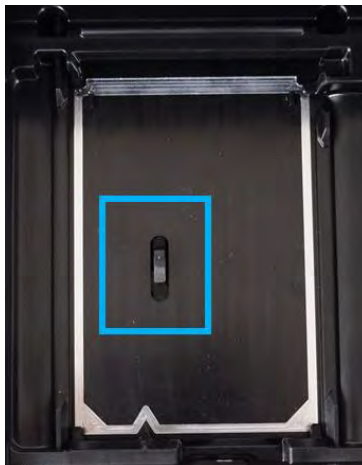

Figure 5.24: Location of the presence switch in the Alto instrument.
- The cartridge loading orientation is important to ensure that the cartridge is sitting properly inside the instrument. To ensure that this is done correctly, the cartridge must sit flat and should not be at an angle. The notch in the cartridge ensures that it is oriented correctly in the cartridge bay. The cartridge will be detected inside the instrument due to the presence switch located within the cartridge loading bay (Figure 5.24).